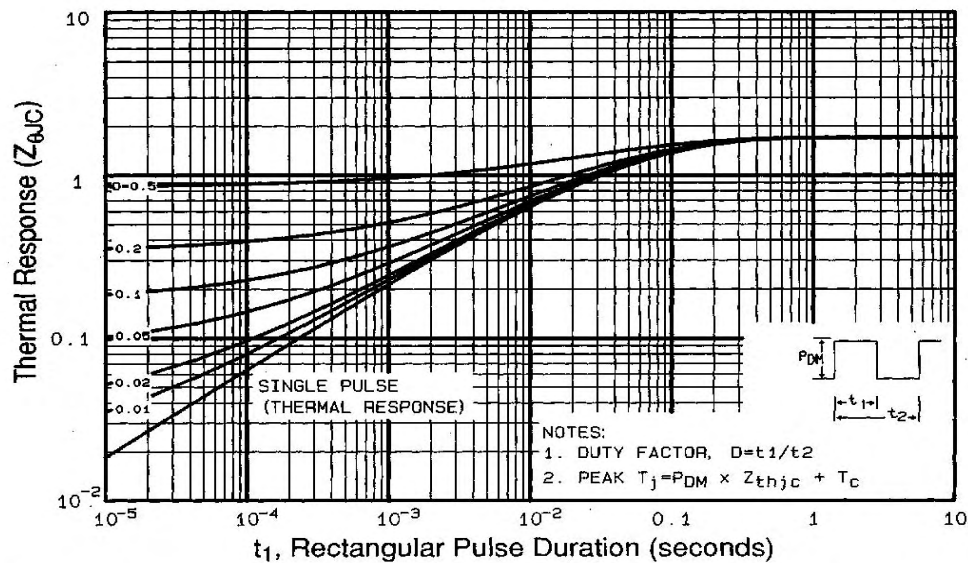

Fig 11. Maximum Effective Transient Thermal Impedance, Junction-to-Case
① Repetitive rating; pulse width limited by max. junction temperature (See Figure 11)
③ $I_{SD}\leq 14A$, $di/dt\leq 140A/\mu s$, $V_{DD}\leq V_{(BR)DSS}$, $T_J\leq 175^\circ\text{C}$